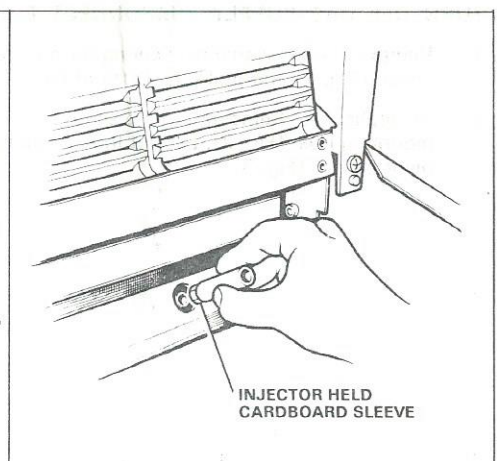

FIG. 9
12. Using a small amount of approved sealing compound on each of the natural gas injectors (Key No. 1) loosely fit them to the fire using the cardboard sleeve. Fig. 9. Fully tighten the injectors using a box spanner.